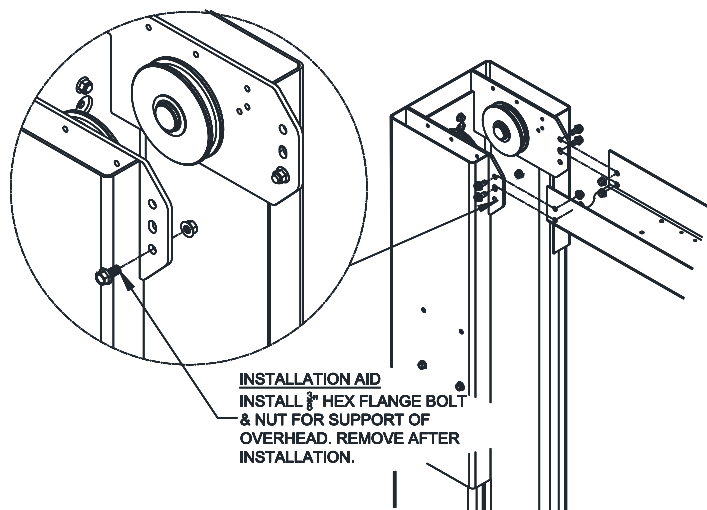

Fig. 6 – Overhead Assembly
- 16) Before raising overhead into position install 4 each (2 per column) hex flange bolts and nuts in bottom hole of column extension (*see Fig. 6 Installation Aid*) for temporary support of overhead. Lift overhead assembly up into position and install with 8 each (4 per column) 3/8"-16 x 3/4" lg. hex flange bolts and hex flange nuts per side as shown in Fig. 6.